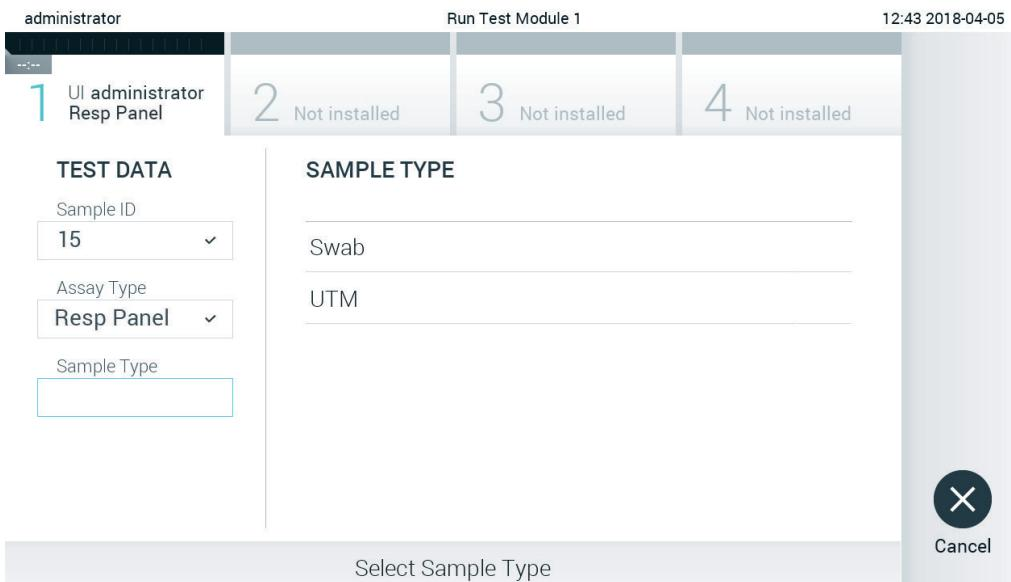

Figure 84. Selecting sample type.
5. The **Assay Type** field will be automatically entered and, if required, an appropriate **Sample Type** must be manually selected from the list (Figure 84).